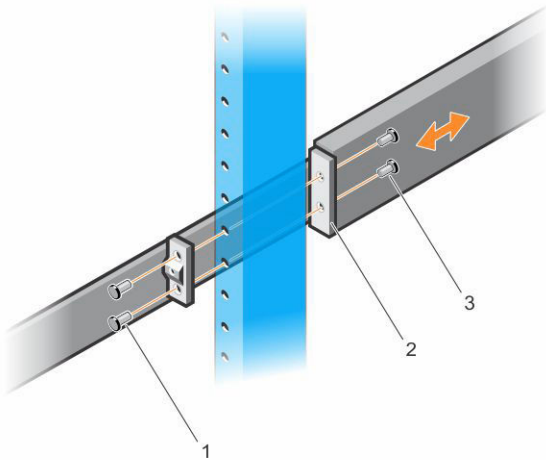

Figure 16. Two-Post Center-Mount Configuration
- 1 Slide the plunger bracket rearward until it clicks into place and secure the bracket to the front post flange with two user-supplied screws. See item 1 in Figure 16.
- 2 Slide the back bracket towards the post and secure it to the post flange with two user-supplied screws. See items 2 and 3.